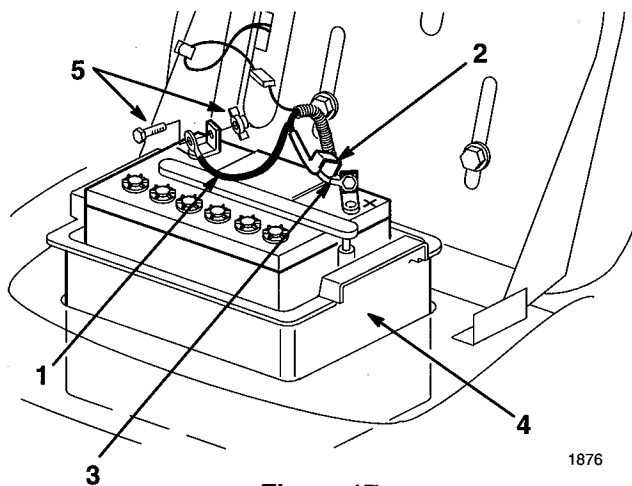

Figure 17
3. Disconnect the negative (black) ground cable from the battery post (Fig. 17).
4. Slide the rubber cover up the positive (red) cable. Disconnect the positive (red) cable from the battery post (Fig. 17).
3. Using the bolt and wing nut, connect the positive (red) cable to the positive (+) battery post (Fig. 17). Slide the rubber cover over the battery post.
4. Using the bolt and wing nut, connect the negative (black) cable to the negative (−) battery post (Fig. 17).